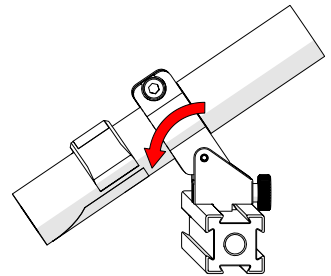

Fig. 257 - Aim guide
3. Adjust the optical guide's friction pivot to direct the laser beam as required (Fig. 257).